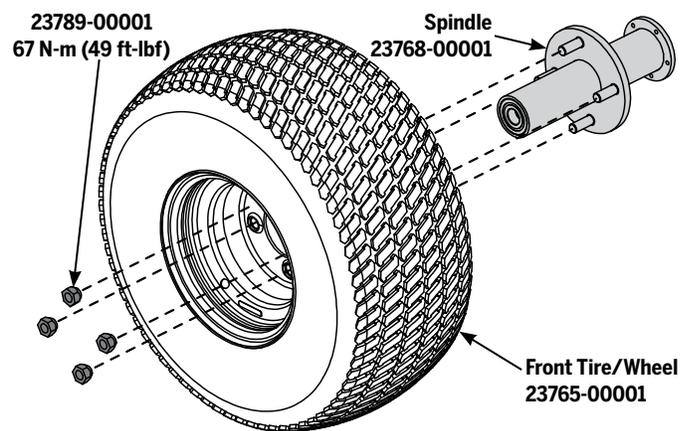

Figure 40: Front Wheel on Spindle
7. Using the wheel nut key, remove the four fasteners holding the wheel onto the Spindle. See **Figure 40**.
See **Figure 40**.